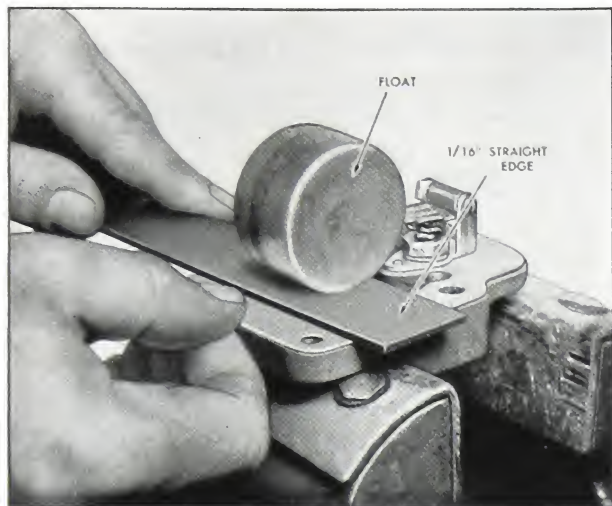

Fig. 5-101. Float clearance
8. Make sure the float and valve are absolutely free and that the float contacts the head of the valve, holding it firmly on the seat in closed position. Otherwise the fuel will overflow at the bottom of the pump. The float should have 1/16" clearance as measured with a straight edge between the float and gasket surface. (Fig. 5-101).